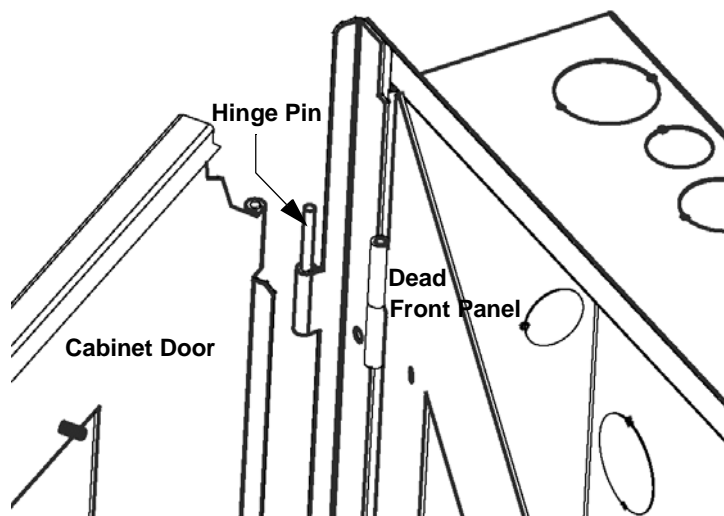

Figure 3-12 Cabinet Door and Dead Front Panel Removal
3. Slide the door or dead front over two pins in the hinge bracket of the base. The outer hinge pins are for the door, the inner hinge pins are for the dead front. See Figure 3-12.